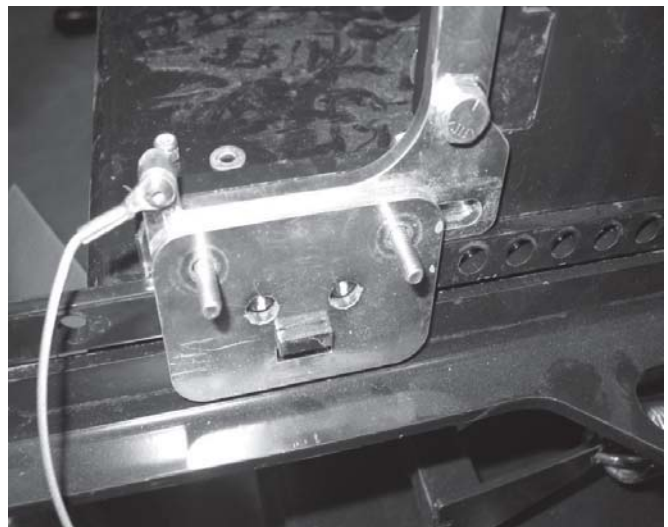

Figure 25 Push 1/4" bolts back through
27. Push bolts back through latch bracket and retainer plate. See Figure 25.